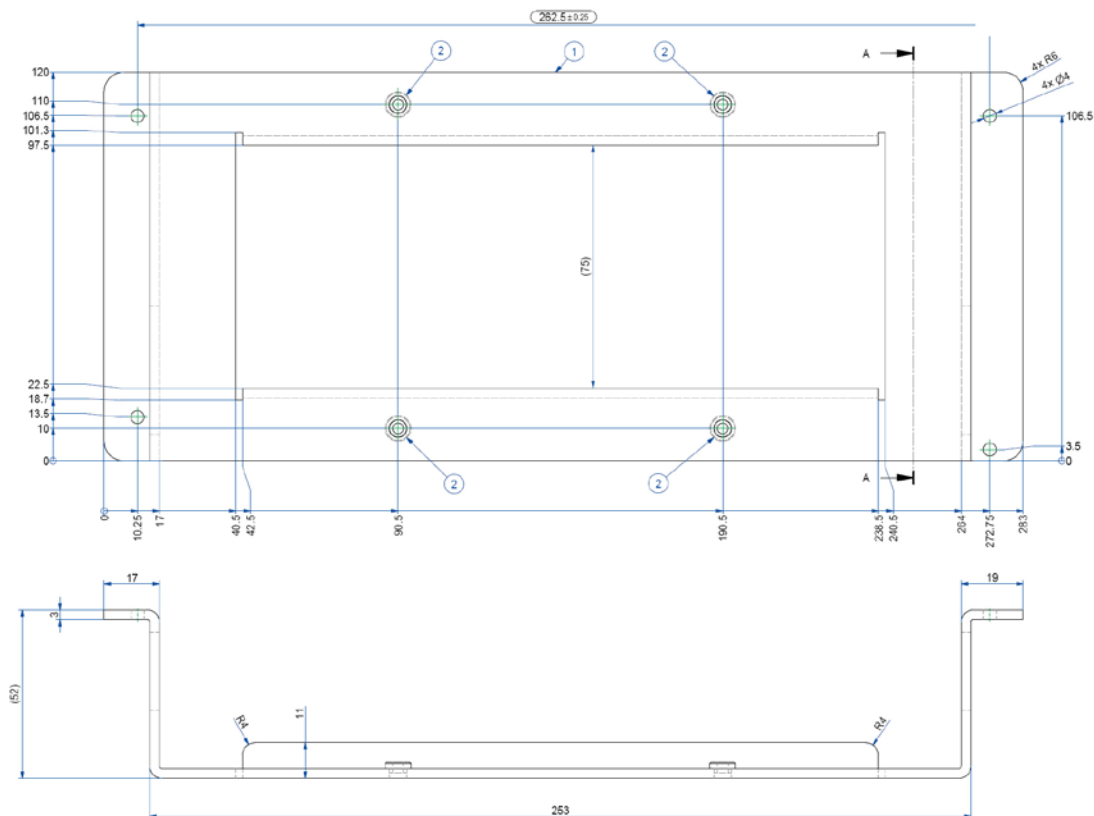

Fig. 38: Rear and bottom view of the mounting plate VESA® 100 compliant for MC 3 104
- ❑ MC 3 104/121/150/170 is VESA® 100 compliant (refer to Fig. 38).